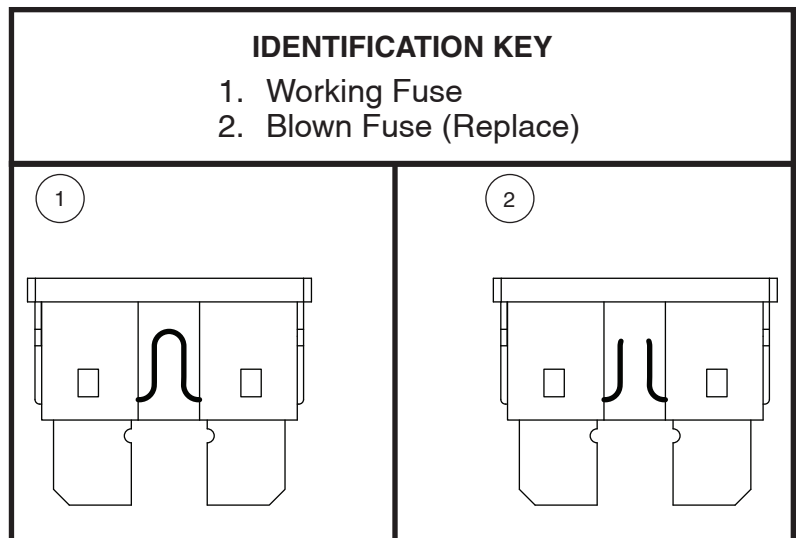

Figure 17. Fuse Replacement
2. Examine the fuse to be sure it is blown. **See figure 17.**